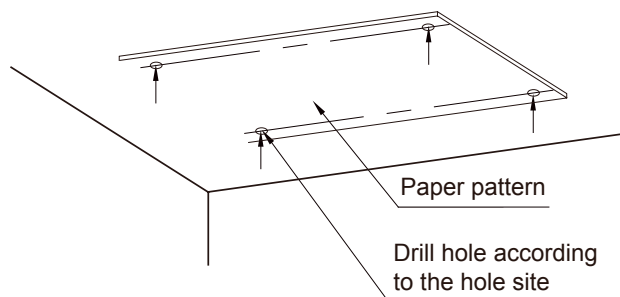
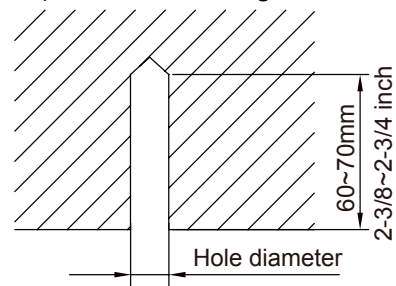

Fig. 4.1.2
Fig. 4.1.3
- 1) Attach the paper pattern (template) on the installation position. Drill 4 holes as shown on the cardboard (see Fig. 4.1.2). Diameter of drilling hole should match the diameter of expansion bolt, and the depth should be 60~70mm (2-3/8~2-3/4 inch), as shown in Fig. 4.1.3